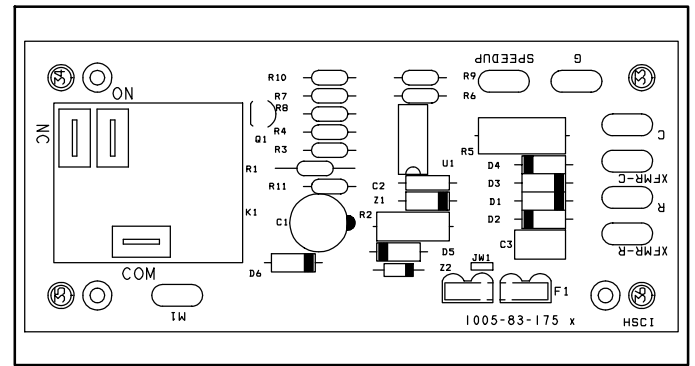

FIGURE 4
Blower control A15 is found in the control box of all 13CHA(X) units. The control is responsible for energizing the blower in response to thermostat demand. Blower operation is NOT delayed after a call for either heating or cooling. A blower "off" delay of 90 seconds begins when the thermostat demand is satisfied. This delay is not adjustable. See figure 4.